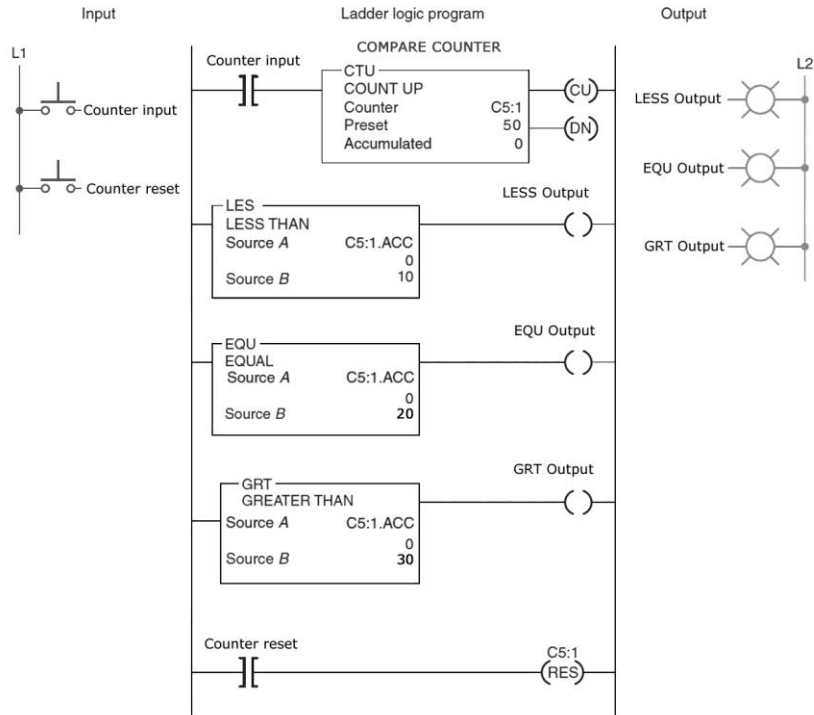

Figure 10-40 Up-counter program for assignment 19.
19. The up-counter program of Figure 10-40, used in conjunction with the LES, EQU, and GRT compare instructions, is described in the text. Prepare an I/O connection diagram and ladder logic program that will simulate its operation. Use addresses that apply to your PLC installation. Enter the program into the PLC, and verify its operation.